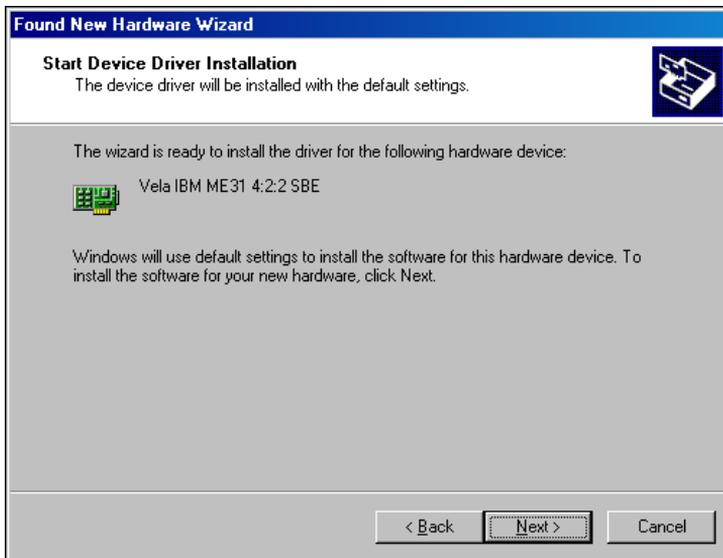

Figure 2-18. "Select a Device Driver" Window
10. The "Start Device Driver Installation" window appears (Figure 2-18). If the installation media is still present, the files will be copied again when you click Next. Otherwise, you will be asked to locate the installation files, as before.